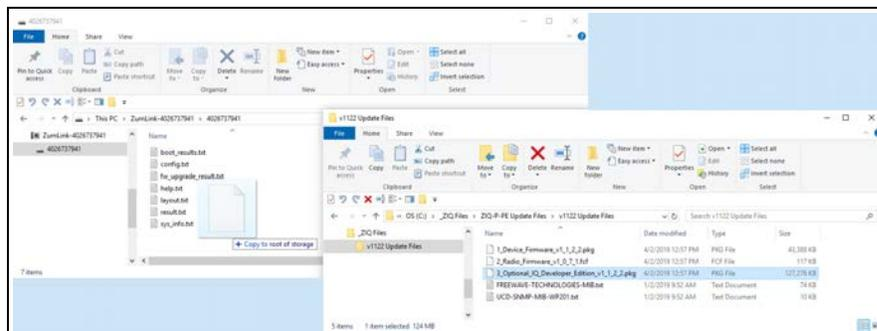

Figure 78: Drag and Drop the 3_Optional_IQ_Developer_Edition_v1_1_2_2.pkg File to the ZumLink window
4. Drag and drop the **.pkg** file on to the **ZumLink** window. Figure 78